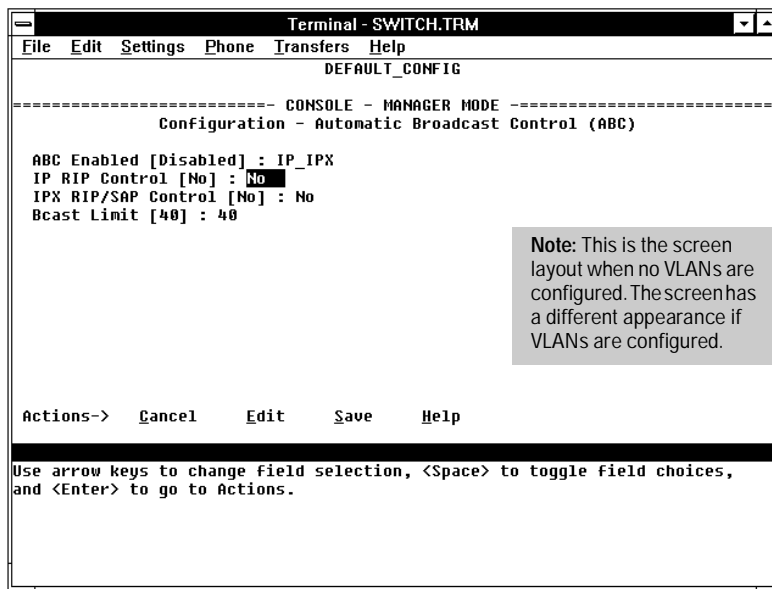

Figure 7-20. ABC Enabled With IP_IPX Option (No VLANs Configured)
- If you enabled ABC for IP_IPX and pressed an arrow key (figure 7-20), below):